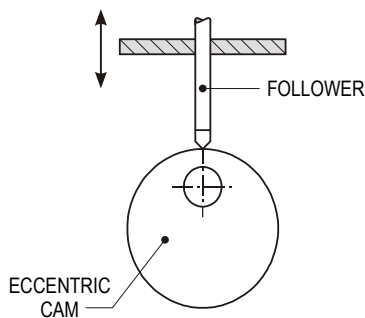

Figure 1
1. The circular or eccentric cam (figure 1)